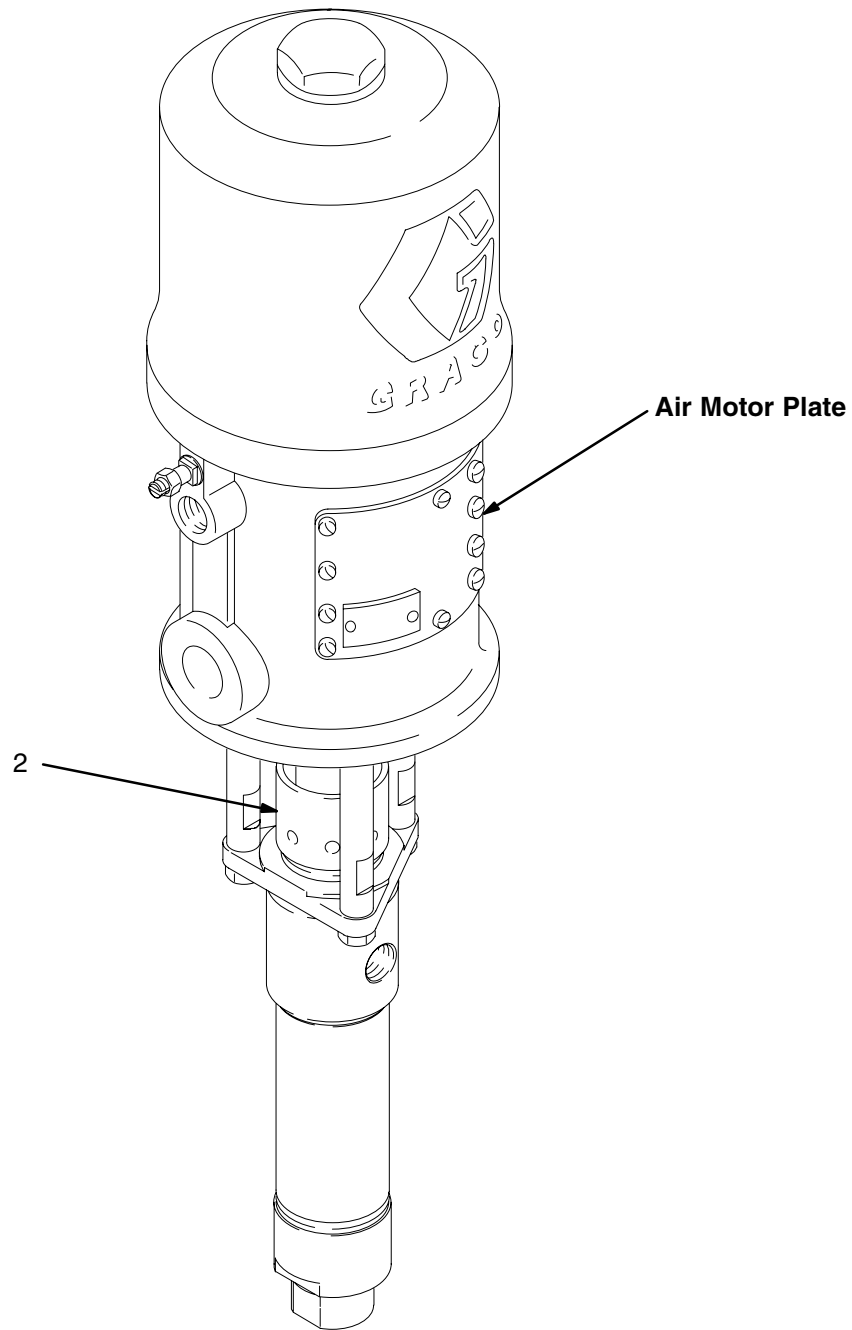

Fig. 3
Moving parts can pinch or amputate your fingers or other body parts. When air is supplied to the motor, the air motor piston (located behind the air motor plates) moves. See Fig. 3. Therefore, never operate the pump with the air motor plates removed.
Keep the packing nut/wet-cup (2) filled with Graco Throat Seal Liquid (TSL) or compatible solvent, to help prolong the packing life. Adjust the packing nut weekly so it is just tight enough to prevent leakage; do not overtighten. See Fig. 3. Always follow the **Pressure Relief Procedure** on page 8 before adjusting the packing nut.